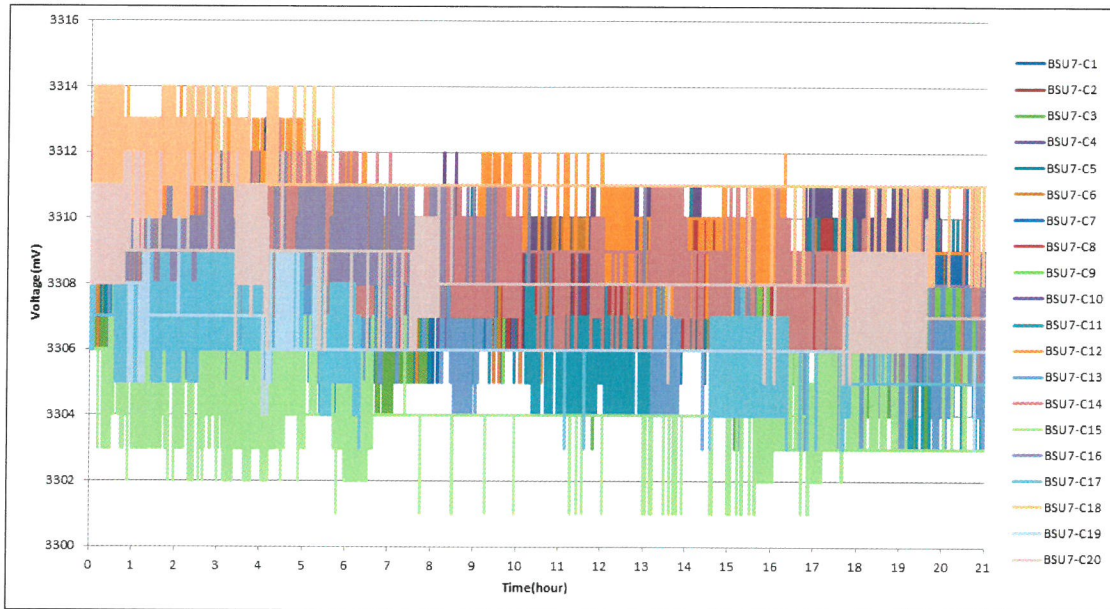

Fig.5 Show the cell voltage during Z axis vibration test
- Fig.5 Show the cell voltage of Z axis vibration test.